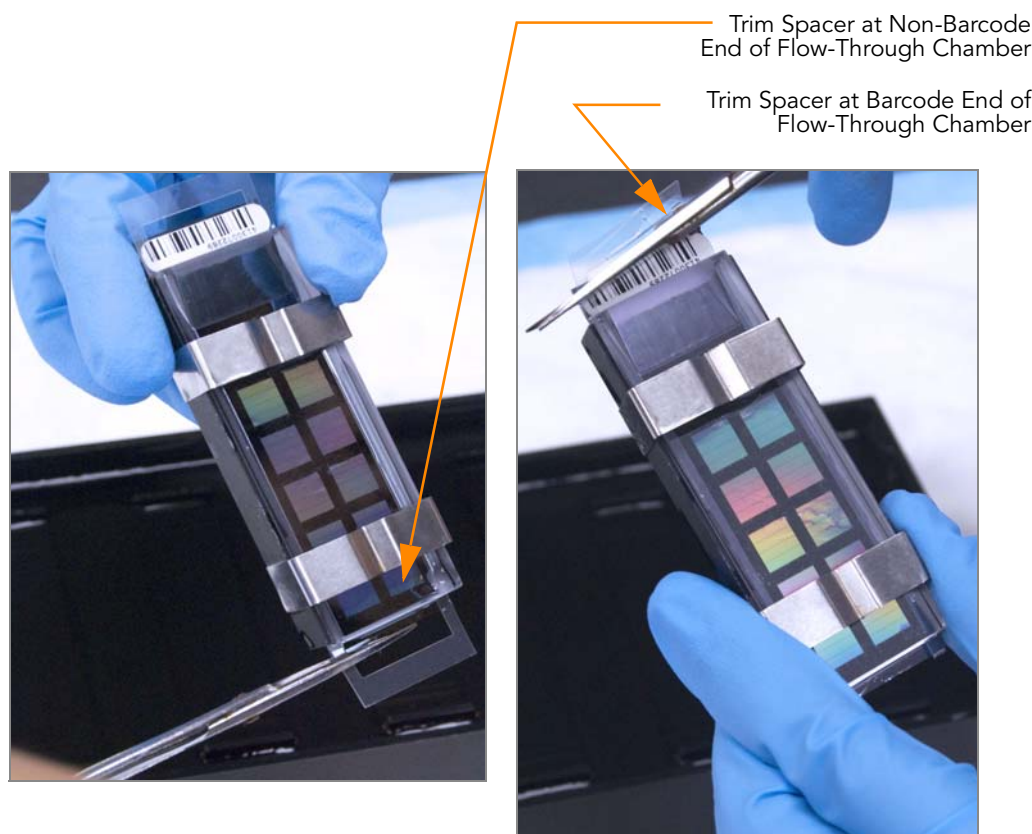

Figure 153 Trimming Spacer Ends from Flow-Through Chamber Assembly
9. Using scissors, trim the ends of the clear plastic spacers from the Flow-Through Chamber assembly (Figure 153):